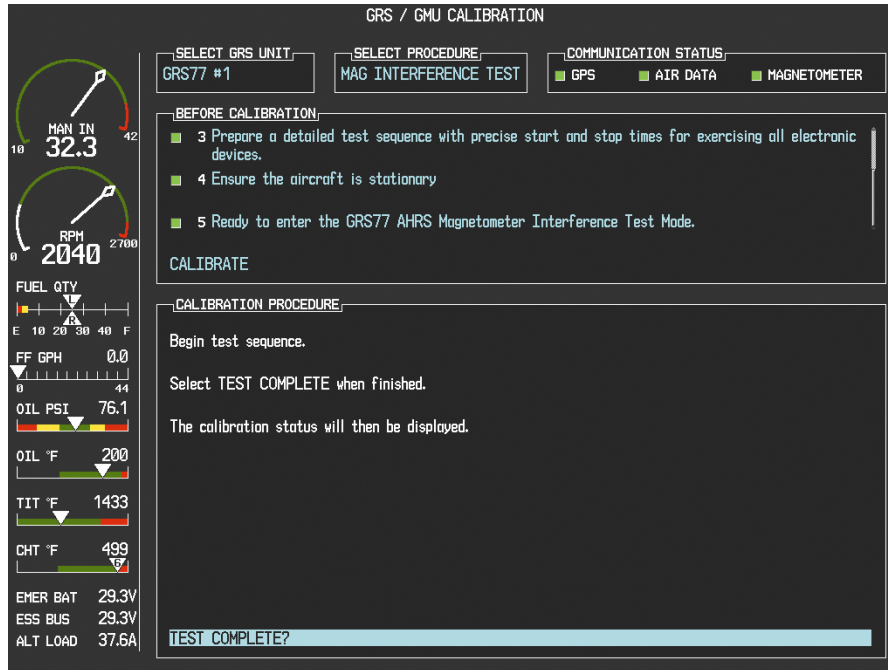

Figure 4-9. Magnetometer Interference
- a) Enter Configuration Mode and go to GRS/GMU Calibration page as shown in Figure 4-9.